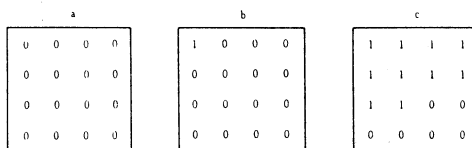

Fig. 1 Addressing method of for 16 bit memory in the Marching pattern
- (1) Clear all bits See Fig. 1 (a)
- (2) Read "0" from 0th address and check that the read data is "0". Hereafter, "Read" means "checking and judging data"
- (3) Write "1" on 0th address. See Fig. 1(b)
- (4) Read "0" from 1st address.
- (5) Write "1" on 1st address.
- (6) Read "0" from nth address.
- (7) Write "1" on nth address See Fig. 1(c)
- (8) Repeat (6) to (7) to the last address. Finally, all data will be "1".
- (9) After all data become "1", repeat from (2) to (8) replacing "0" and "1".